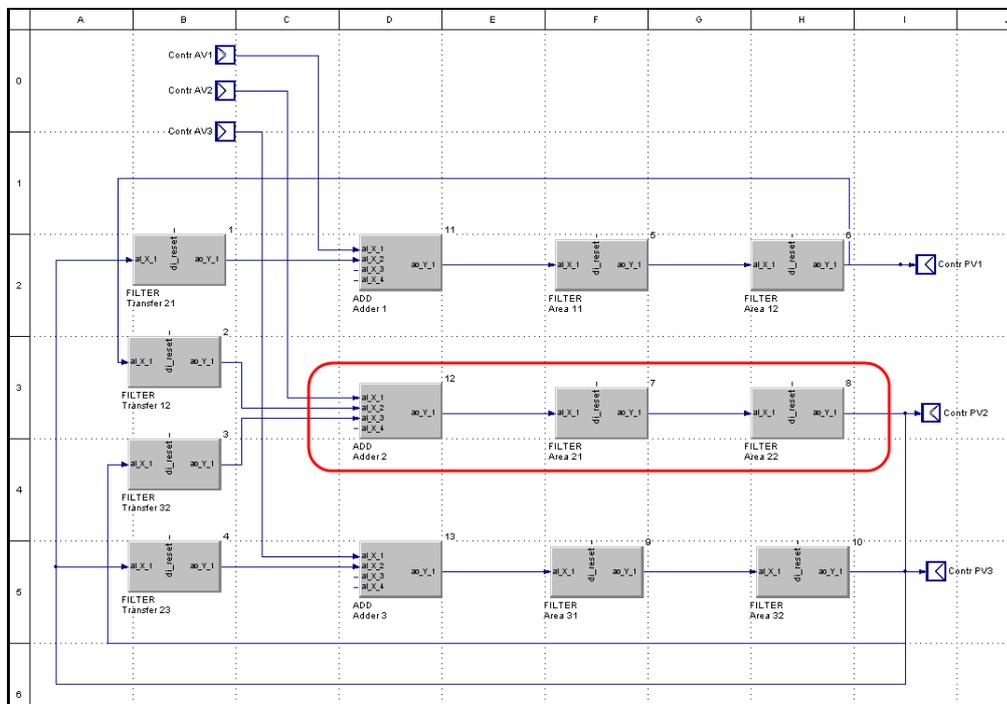

Fig. 317: Practical example: Program block "PROCESS"
3. **Copy blocks:** Copy the blocks highlighted in the graphic above (Fig. 317) and insert them in the macro. Name the blocks corresponding to the graphic below.